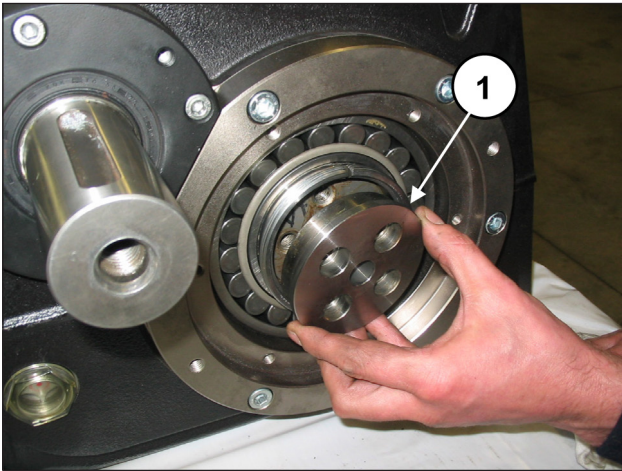

Fig. 79
Insert the bush locking flanges into the conical bushes (pos. ①, Fig. 79).